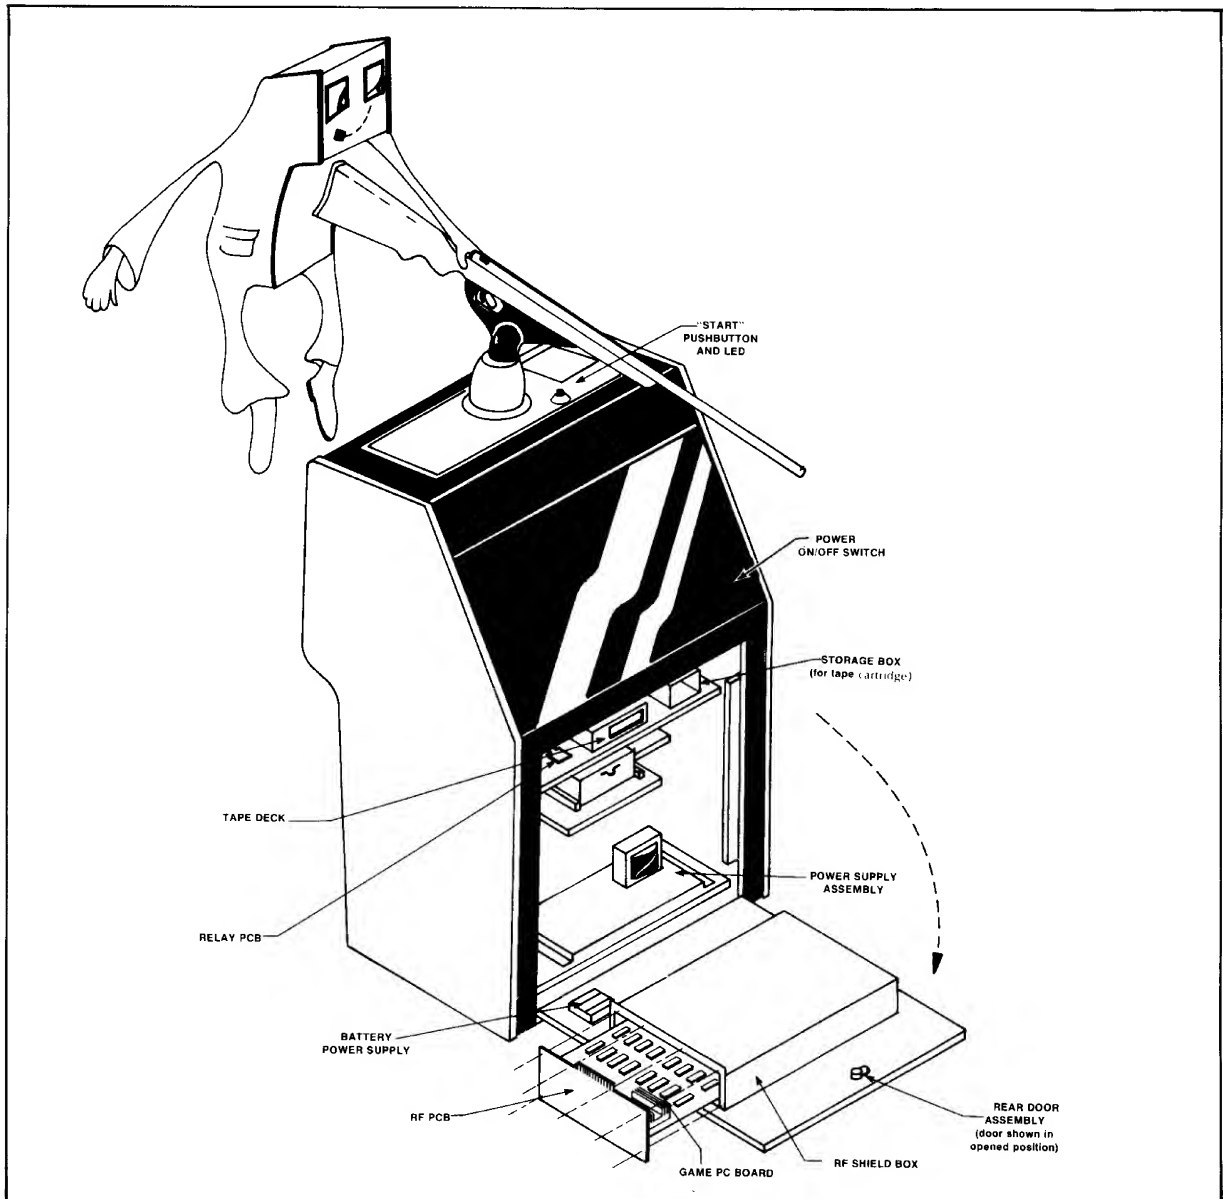
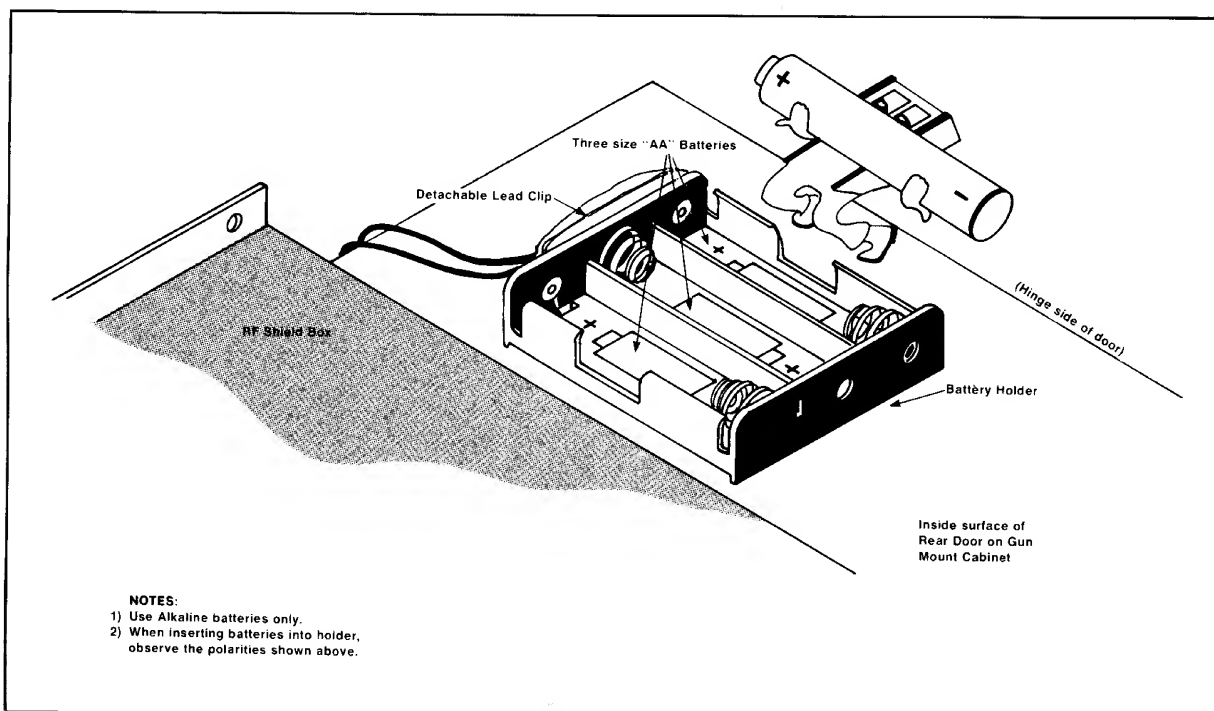

Figure 5 Exploded Diagram, Front View of Gun Mount Cabinet
Figure 6 Detail View of Battery Power Supply
- 2) Inside the cabinet, also find the three size AA batteries mounted in a battery holder on the back side of the rear door. Figure 5 shows the location of the batteries. Confirm that the batteries are fully seated, with the correct orientations for polarity, and that the lead clip to the battery holder is connected securely. Figure 6 shows a detailed view of the holder, including battery polarities. (The lead clip may have been disconnected at the factory, in order to avoid battery drain during shipment. If the game is to be stored for longer than a few weeks, it is a good idea to disconnect the lead clip for this same reason.) The gun alignment portion of the test mode has to be done over again after any removal of a battery.
- 3) Locate the R.F. Shield Box (a large, perforated aluminum box attached to the door), and the R.F. printed circuit board (attached to one end of the box). Refer to Figure 6 for an exploded diagram view of the interior of the Gun Mount Cabinet.